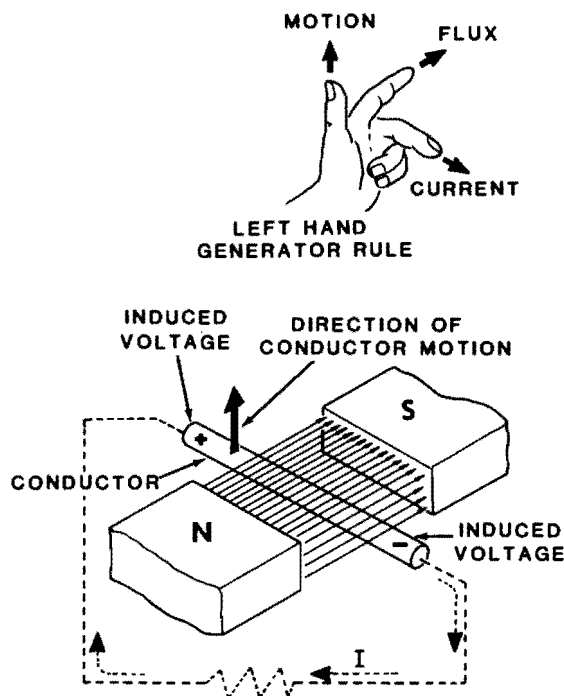

Figure 1-4 Voltage induced in a conductor by movement in a magnetic field.
In Figure 1-4, notice that a short wire or conductor has been inserted into the magnetic field that exists between the north (N) and
The voltage developed across the conductor shown in Figure 1-4 results because of the relative motion between the conductor and the magnetic lines of force. This relative motion must exist in order for a voltage to be produced. The conductor may move while the field remains stationary or the conductor could be held stationary while the field is moved. Either condition would cause a voltage to be produced. If there is no relative motion, no voltage is produced.
(such as a resistor) across the conductor as shown by the dashed lines in Figure 1-4. Current could then flow through the load resistance as shown.
The polarity of the voltage induced within the moving conductor is determined by the direction that the conductor is moving and the direction of the magnetic field. Notice the direction of conductor motion and the direction (north to south) of the magnetic flux shown in Figure 1-4. Note the polarity of the induced voltage and the direction that current will
You can use the left-hand generator rule, illustrated in Figure 1-4, to determine the direction of current flow or the polarity of induced voltage, within a conductor. When your left hand is positioned as shown, your thumb indicates the direction of conductor motion, your index finger points in the direction of magnetic flux, and your middle finger, which is bent out from the palm at a 90 degree angle, points in the direction of the induced current.
The angle at which the conductor cuts the magnetic field also affects the induced voltage. When a conductor moves at a right angle (90 degrees) with respect to the magnetic field, as shown in Figure 1-4, maximum voltage is induced. When the angle between the field and the direction of conductor motion decreases, induced voltage decreases. This relationship is true regardless of the direction of the induced voltage.